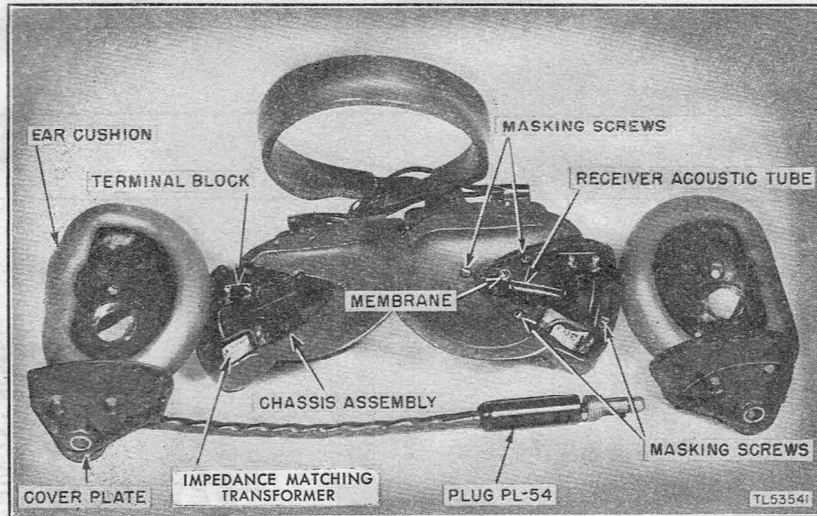

Figure 4. Headset H-16/U, disassembled.
(1) PREPARATION. Make all repairs and adjustments necessary for proper operation of the equipment.
(2) DISASSEMBLY (fig. 4).